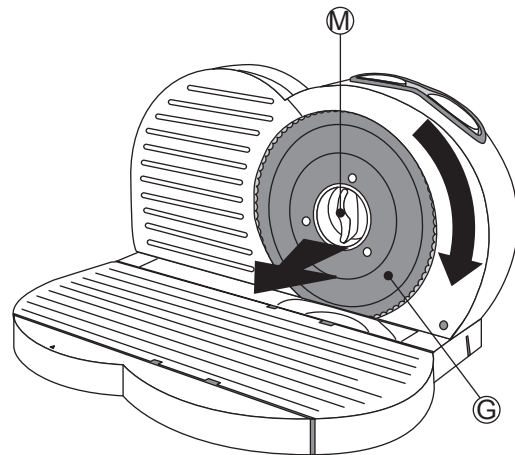

fig. 9
1. Make certain that the Food Slicer is OFF and UNPLUGGED. Turn the Blade Lock (M) clockwise to unlock it. Pull out the Blade Assembly (G).
- See fig. 9.